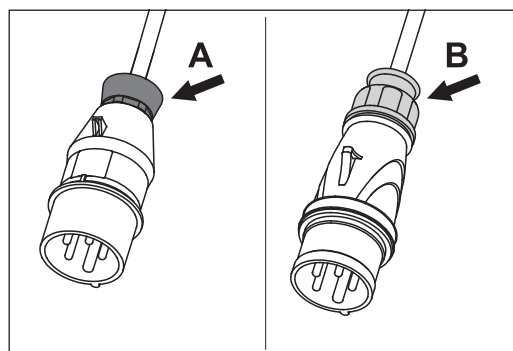

Fig. 28 Original LÄGLER® plug with **red** nut (A) or **yellow** nut (B).
- 2 Original LÄGLER® plug with **red** nut at the cable outlet (fig. 28, A):
Original LÄGLER® plug with **yellow** nut at the cable outlet (fig. 28, B):